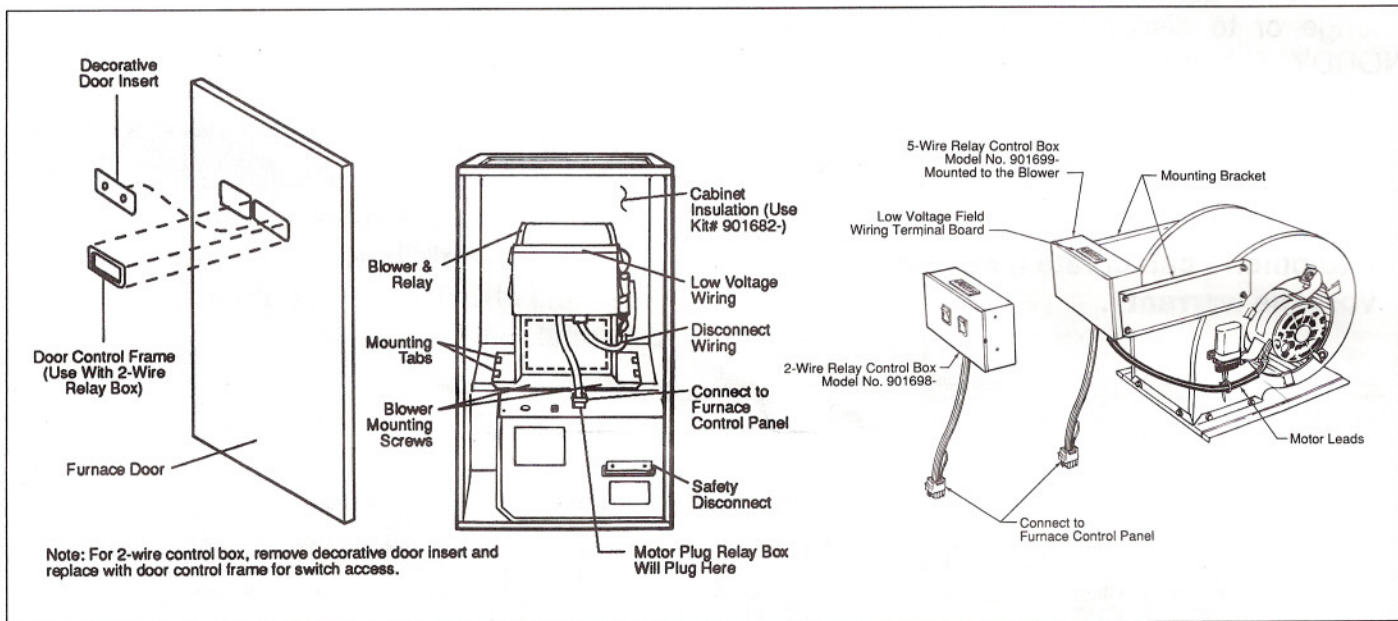

Figure 1. FE()A- Series Electric Furnace
Installation Sequence for NORDYNE Model FE()A- Series Electric Furnace (See Figure 1)
1. Remove the furnace door by pulling outward either from the top or top side of the door. Pull out the furnace safety disconnect from the furnace control panel shown in Figure 1.
- Attach the relay control box to the mounting brackets as shown in Figure 1 using the four blunt screws provided.
Connect the relay box wire assembly/connector into the furnace control box connector. (See Figure 1)